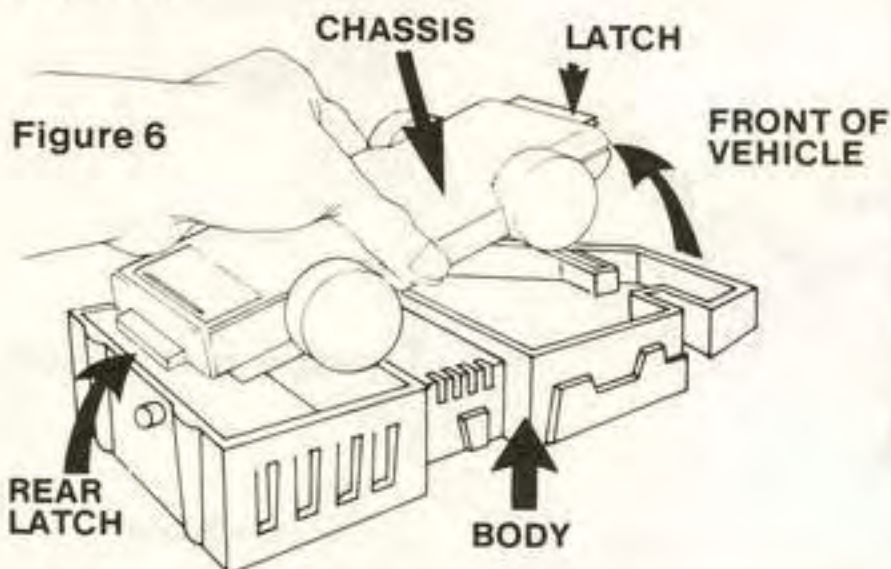

Figure 6
1. To remove CHASSIS, unhook LATCH under FRONT OF VEHICLE, lift CHASSIS from the BODY, and unhook the REAR LATCH. (Figure 6)